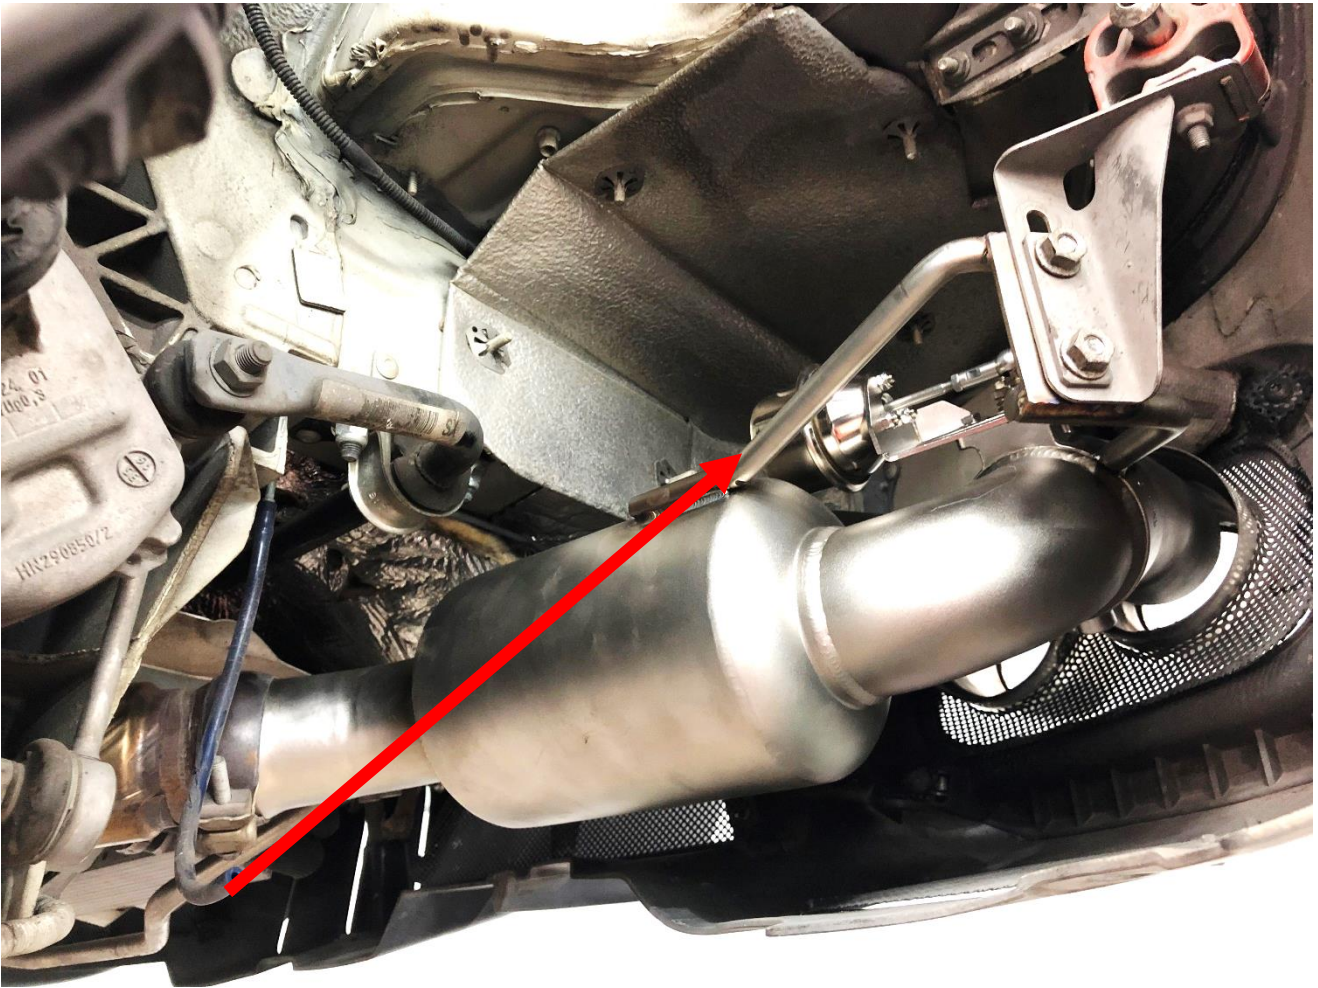

Fig. 17
8. Attach the original vacuum tube to the two-way and extended vacuum tube, and connect it to the iPE muffler. (Fig 17)